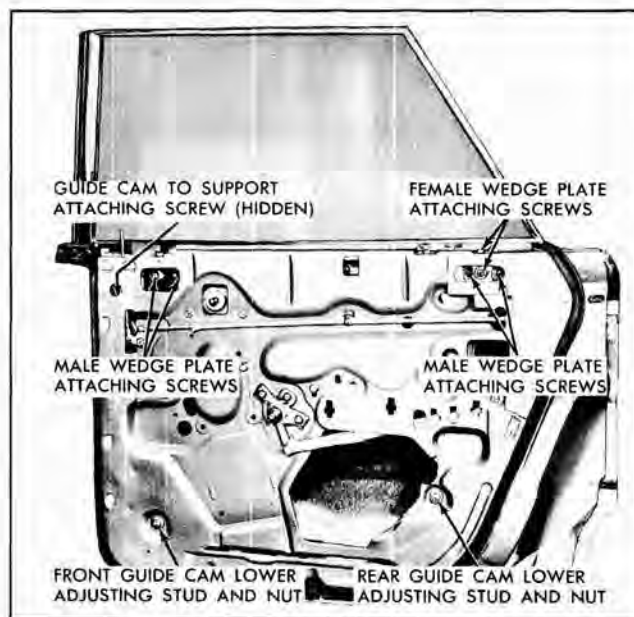

Fig. 3-40 Rear Door - "39" Style
4. Remove regulator attaching screws, disengage balance arm from inner panel cam and remove regulator assembly through access hole (Fig. 3-40).
2. Through inner panel access hole remove front guide cam upper attaching screw(s) and front guide cam lower adjusting stud and nut (Fig. 3-40).
2. Raise door window. Through inner panel access hole remove front guide cam upper attaching screw (Fig. 3-40).
2. Remove rear cam upper attaching screws and lower adjusting stud and nut (Fig. 3-40).